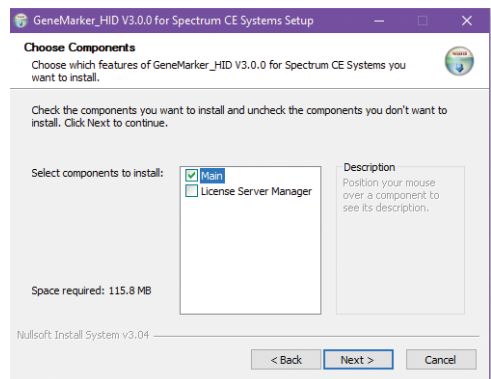

Figure 9. Selecting Main in the 'Choose Components' window.
5. Select **Main** in the 'Select components to install' field of the 'Choose Components' window (Figure 9), then select **Next**.